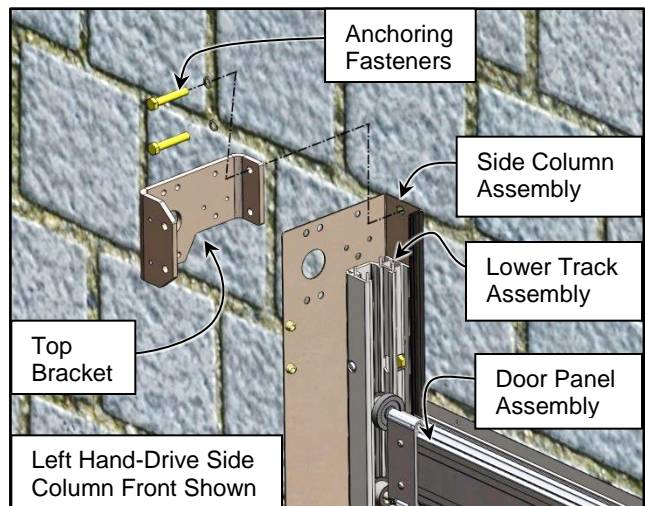
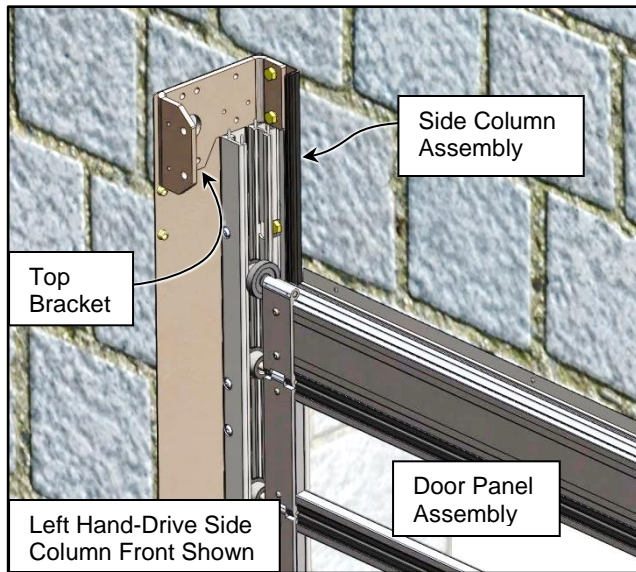

Figure 38
Figure 39
- On the drive side remove the top two fasteners securing the side column to the wall on the drive side. Install the top bracket into the side column using the same two fasteners as shown. All holes will align between the bracket and side column plate when properly installed. (See Figure 38 and Figure 39)